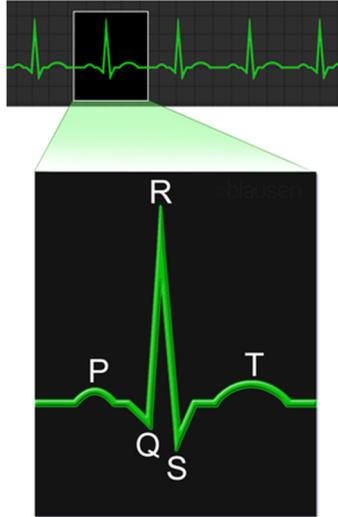

Figure 29 – Normal heart beat electrocardiogram wave signal (Blausen Medical Communications via Wikimedia Commons).
Figure 29 shows a standard ECG wave (II) divided into five parts: P-QRS-T. The P wave represents atrial depolarization, and the QRS represents ventricular depolarization. The T wave reflects the phase of rapid repolarization of the ventricles.